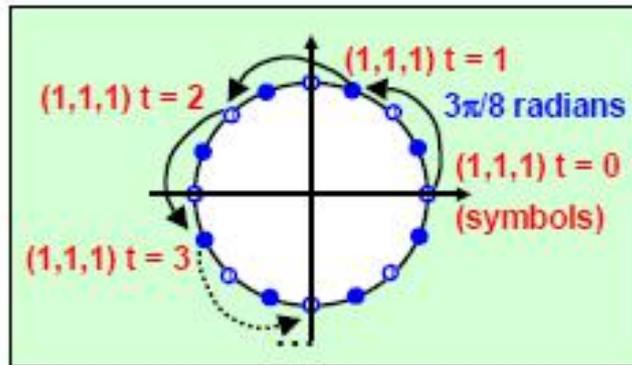

Fig.10 Diagram of EDGE vectors
$(1+\alpha)R_s$, whereas R_s is the symbol rate. As shown in Fig. 10, when $\alpha = 0$, the occupied bandwidth (BW) is R_s (due to $F_s = 0.5R_s$, $BW = 2F_s$); when $\alpha = 1$, the occupied bandwidth